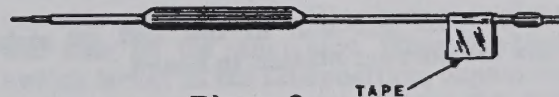

Figure 3
- ( ) Place a piece of tape on the long end of the alignment tool, as shown in Figure 3. This
- ( ) Place a piece of tape on the long end of the alignment tool, as shown in Figure 3. Use the short end of the tool for the following adjustments. The tape will indicate how far each slug is turned.